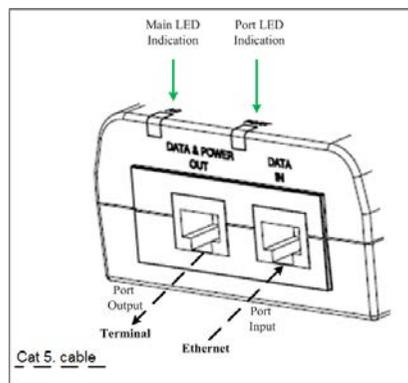

Figure 3: PoE Midspan Ports
- Connect the "DATA IN" jack (input) to the data source (switch) and the "DATA & POWER" jack (output) to the terminal (PD) (See Figure 3).